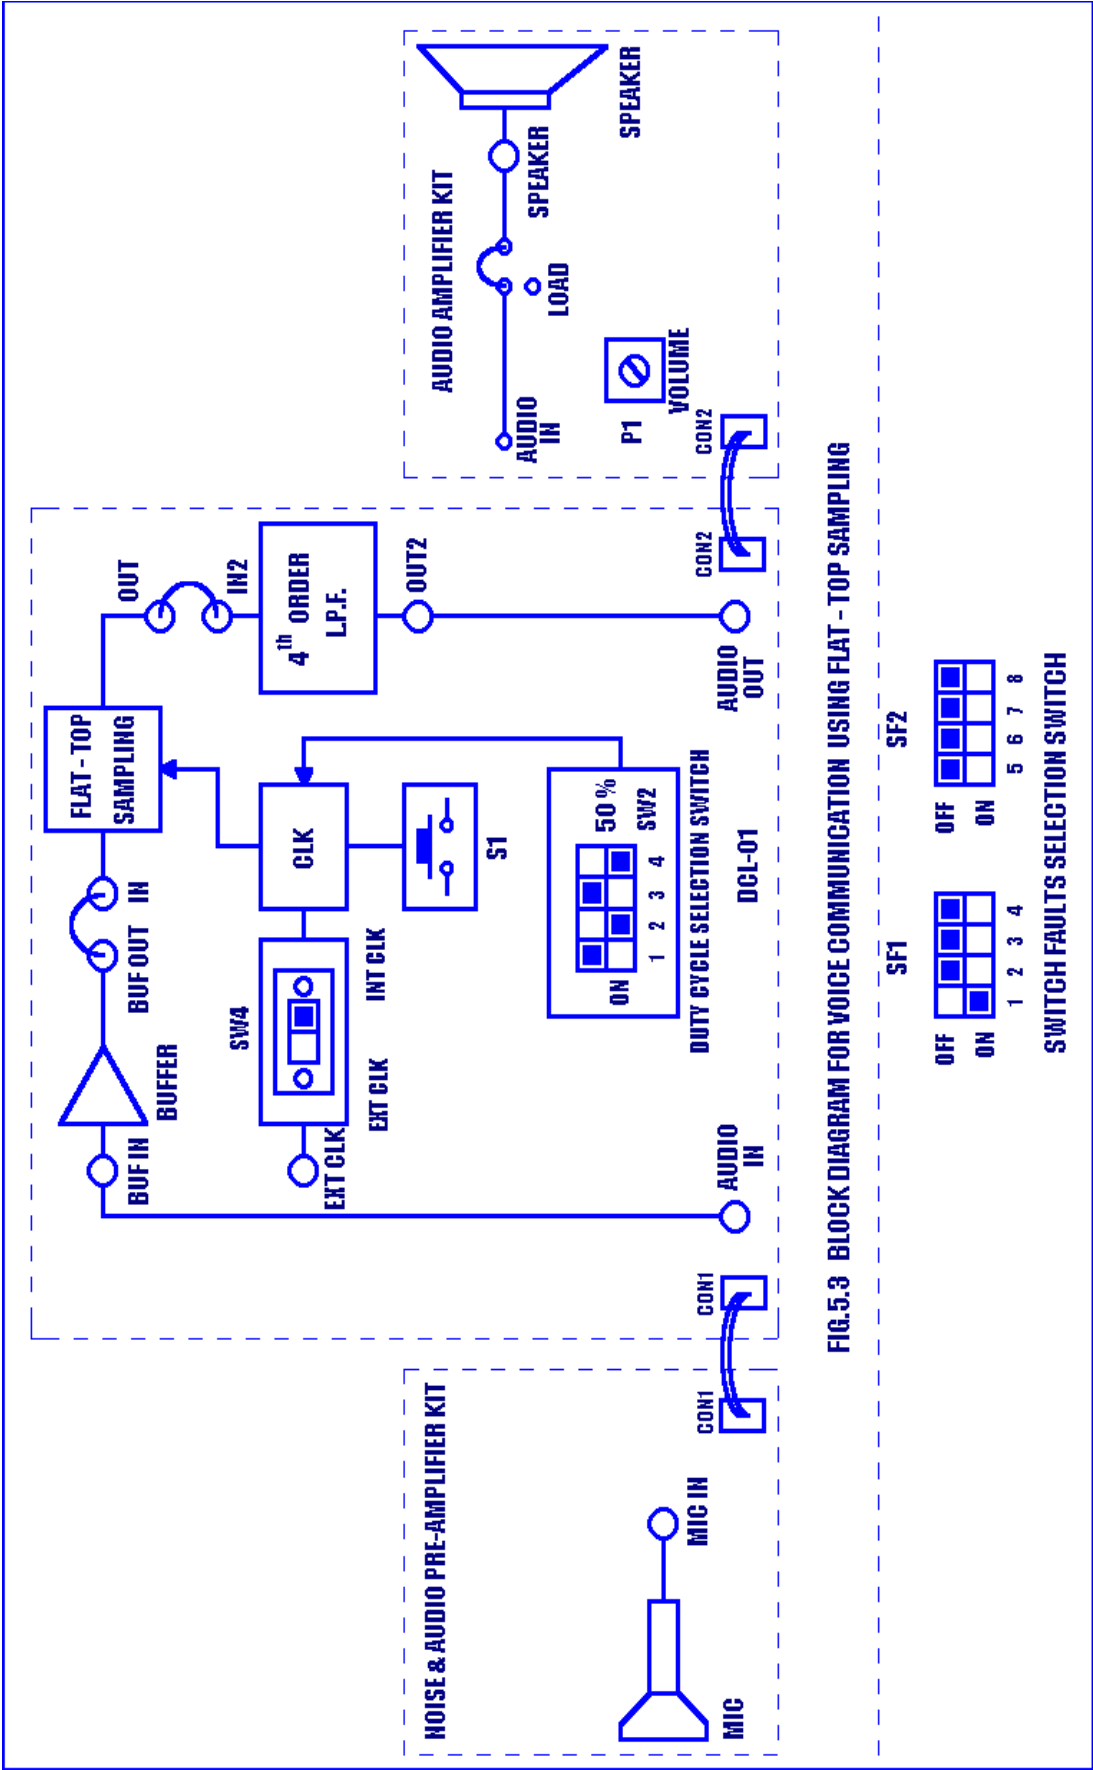

FIG.5.3 BLOCK DIAGRAM FOR VOICE COMMUNICATION USING FLAT - TOP SAMPLING
15. Repeat voice link through Sample and Hold (Fig. 5.2) & Flat Top sampling (Fig. 5.3) techniques by referring the experimental procedure of the same.